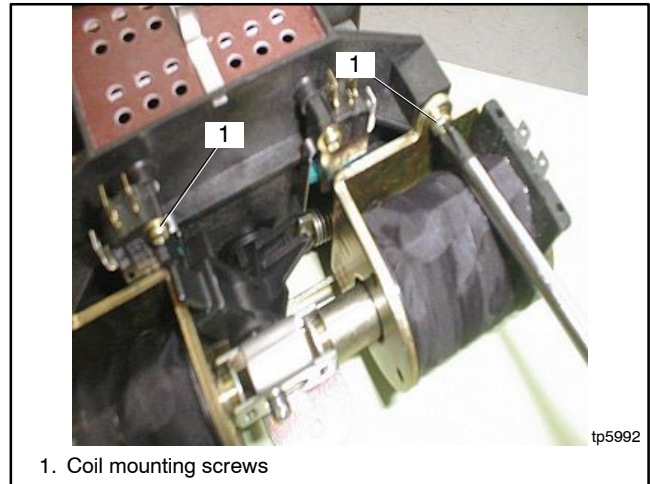

Figure 7-17 Loosen Coil Mounting Screws
1. Loosen the four coil mounting screws (two for each coil) by two full rotations. Do not remove the coils. See Figure 7-17.